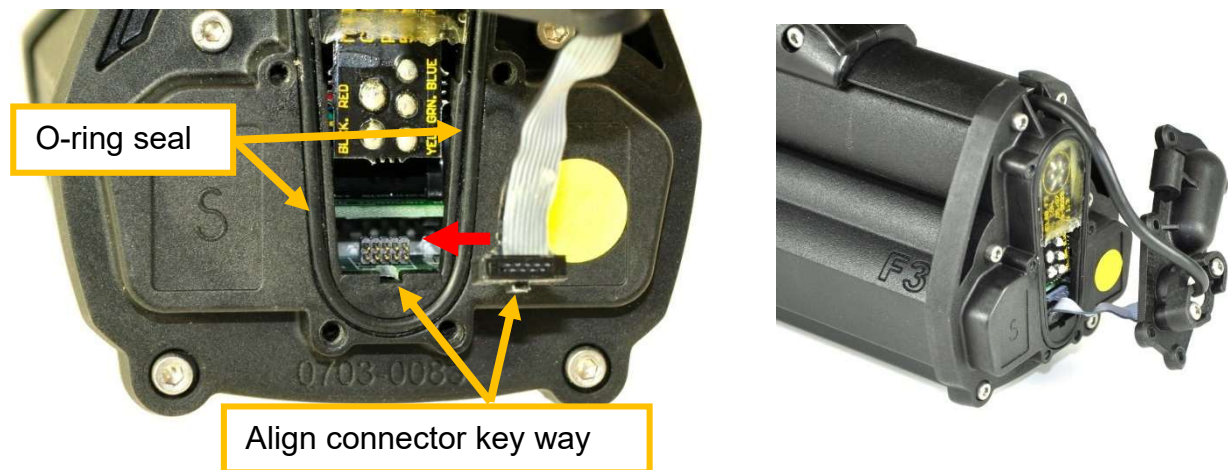

Figure 16: Connecting Wiring Loom into the Electronics Pack.
- Ensure that the keyway on the wiring loom plug is towards the bottom of the electronics pack then plug the main wiring loom into the connector in the electronics pack. Refer to Figure 16.